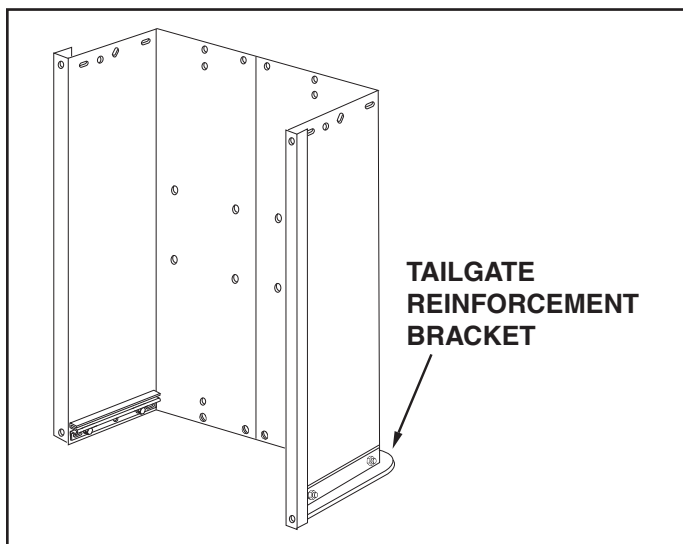

FIGURE 3
- Carefully reverse the position of the cart so that it rests on the tailgate reinforcement bracket, as shown in figure 3.